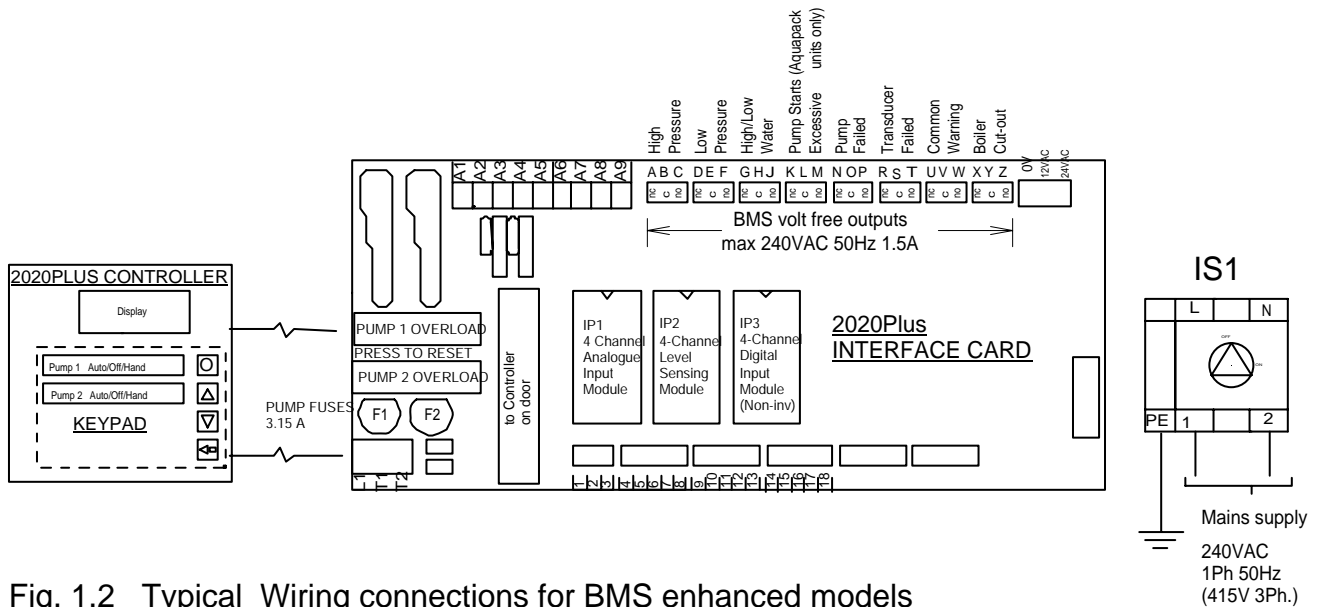

Fig. 1.2 Typical Wiring connections for BMS enhanced models
- 1.3.6.3 Connect incoming electrical mains supply via a suitable switch/fuse supply to identified terminals in panel (see fig. 1.2). Ensure voltages and frequency indicated on the motor nameplates and wiring diagrams correspond with supply mains data and that the supply fuse ratings are correct for the total current rating of the equipment. Note: some units may require a 3 Phase supply for special applications. Refer to wiring diagram supplied with the unit or AquaTech-Pressmain.